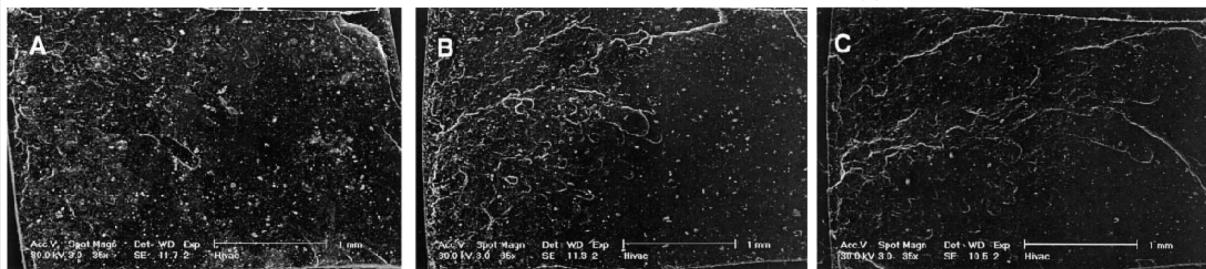

Figure 12 SEM images of the tensile fracture surfaces of fluorinated NBR at (A) room temperature, (B) 50°C, and (C) 100°C after exposure to zinc bromide fluid.
- Brittle fracture is more evident with the treatment that least reduces $ZnBr_2$ diffusion (fig. 12 A)